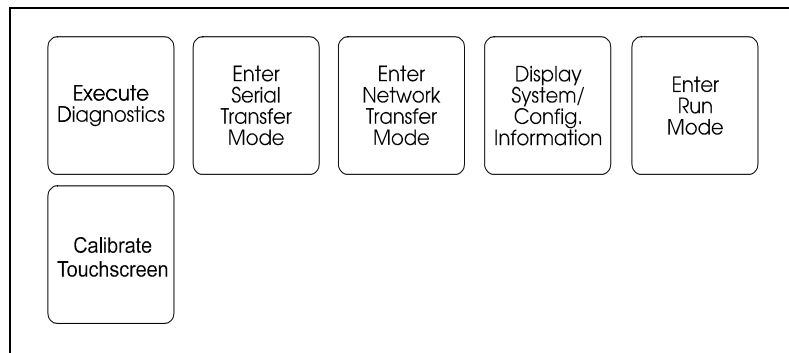

Figure 2-5 Offline Mode Menu
- If the PanelMate Unit was in the Offline Mode, it will return to the Offline Mode and display the menu shown in Figure 2-5.
5. Press Execute. The screen in Figure 2-5 is displayed.
Figure 2-5 shows the Offline Mode menu. Each of the sections is described below.